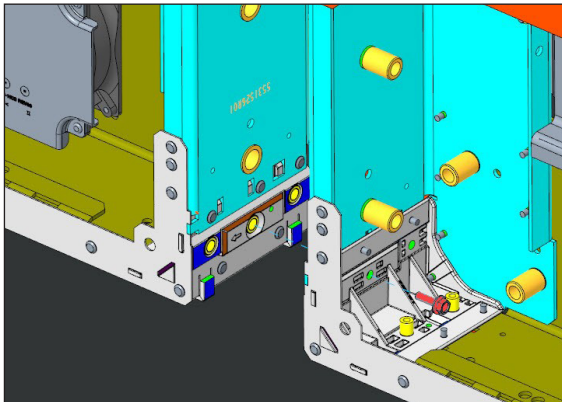

Figure 17: Install Bolt through Corner Block
- Install the M6 bolts (Daktronics part number HC-3464941) supplied with the interconnect hardware horizontally through all of the corner blocks from one cabinet into the adjacent cabinet's corresponding corner block's nutsert. **Install one bolt in the center hole of each corner block.** Refer to **Figure 17**. Finger-tighten the bolts.